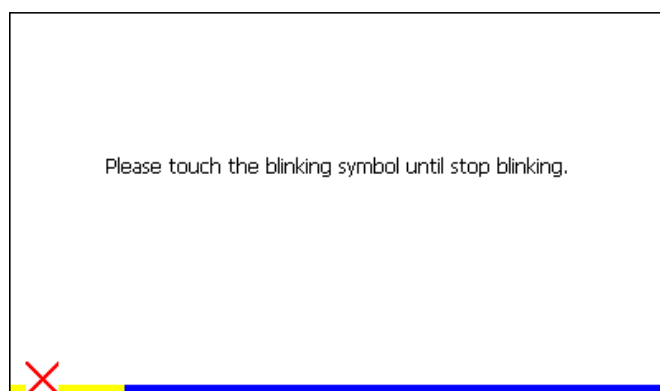

Figure 25
4. Choose calibration by **4 points** or **25 points** (**Fig. 25**).
5. A flashing **X** symbol will appear (**Fig. 25**). Press and hold the center of the symbol until a new one appears.